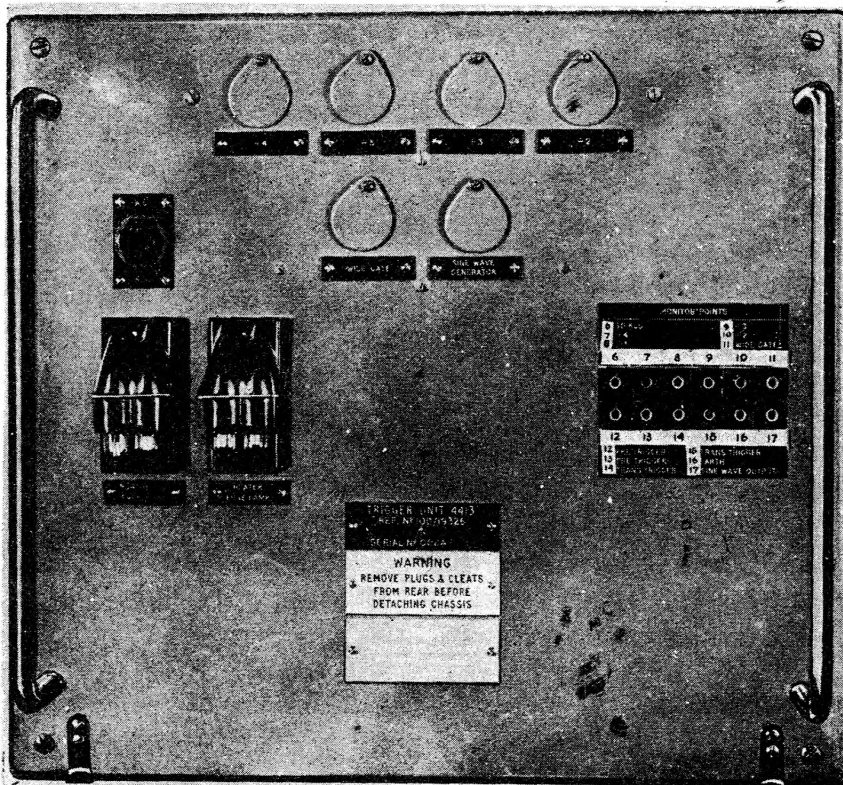

Fig. 1. Trigger unit 4413 : front view
1. Trigger unit 4413 (fig. 1) initiates two trains of pulses which are used for station triggering on CEW stations where Radar Type 80 is installed. Both pulse trains have the same p.r.f., namely, 270 c/s, and corresponding pulses in the two trains (the primary and secondary sub-trigger pulse trains) have a separation of 688 μ S. The outputs from trigger unit 4413 are:—